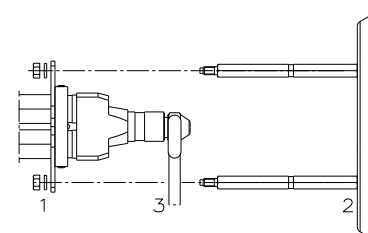

Fig. 16
- Replace the nozzle with wrench 3)(Fig. 16).